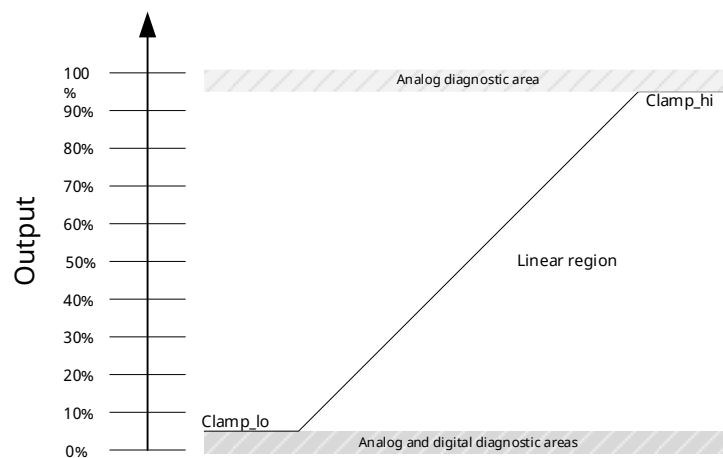

Fig.4 Typical application output range
(1) The SC69401 can meet the typical application output range shown in Figure 4